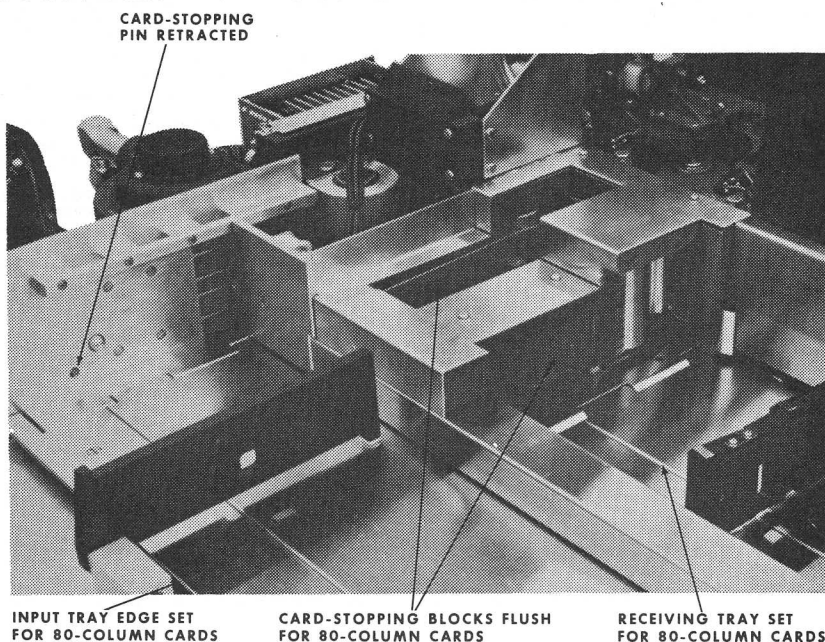
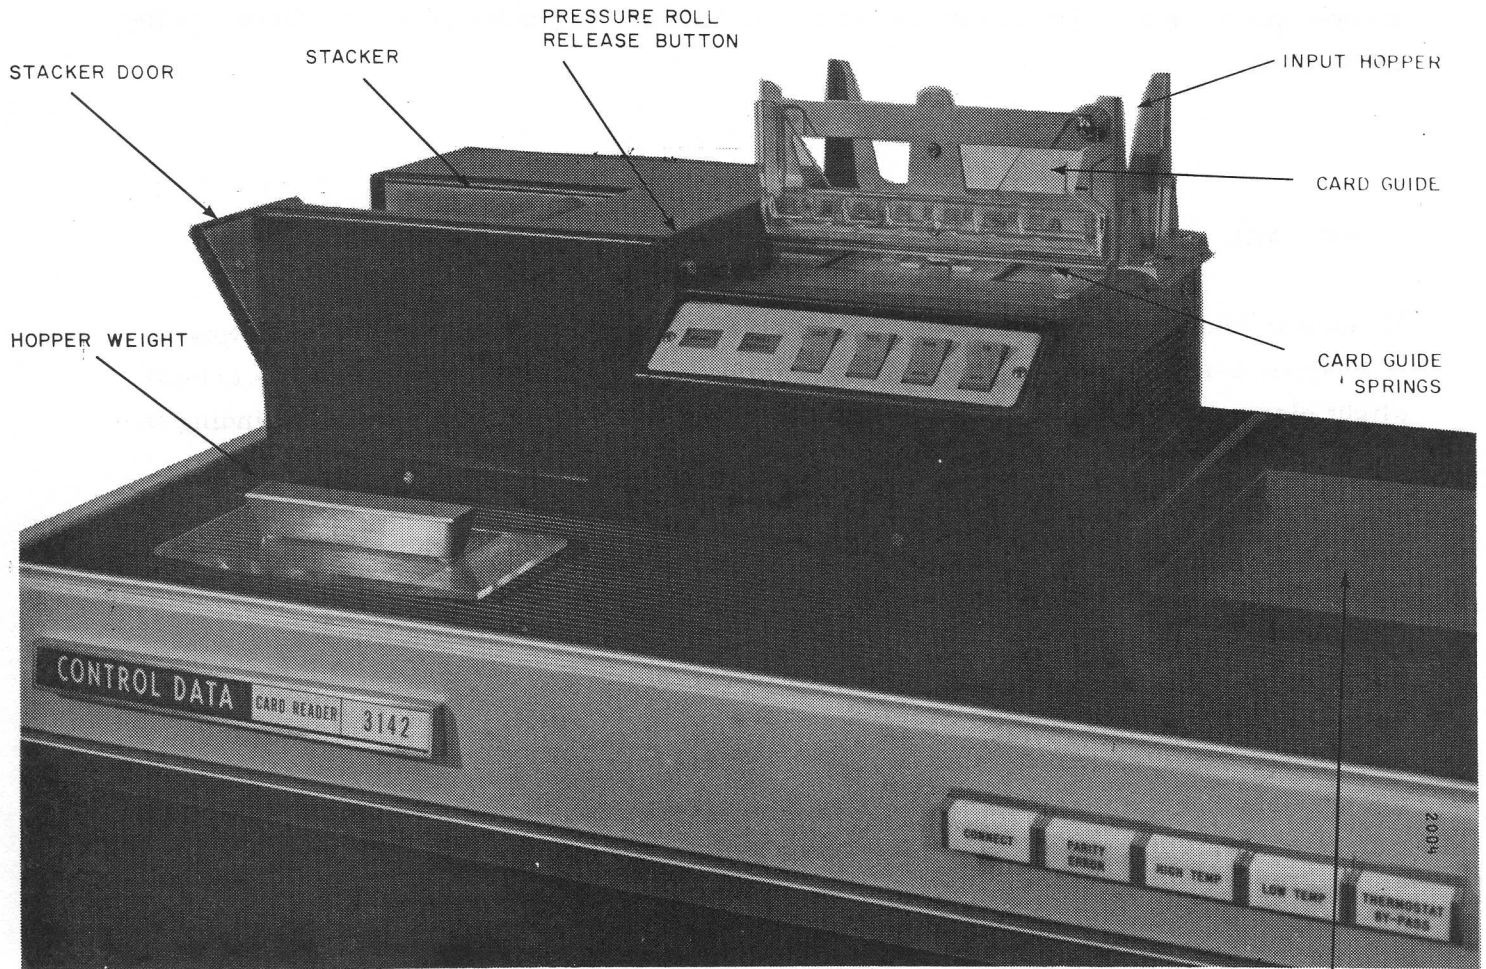

Figure A-2. Card Trays Set for 80-Column Cards
Figure A-4. 3142 Card Reader
- 3) Check input wall of secondary and main receiving trays if 80-column (long) cards are used. Hinged card-stopping blocks should be positioned so that a flush surface is formed at each input wall (Figure A-2). The hinged block assemblies must be pivoted to protrude from the wall surfaces of each receiving tray if 51-column (short) cards are to be used (Figure A-4).
- 4) At input tray, set card-stopping pin to protrude from the face plate if short cards are to be used; turn pin clockwise to form flush wall if long cards are being used (Figures A-2 and A-3).
Use Figure A-4 to locate the parts of the 3142 card reader that are referred to on the following pages.
Some models of the reader have four fragile card guide springs in the hopper throat area. These are shown in Figure A-4. Care must be exercised to prevent damage to these springs.